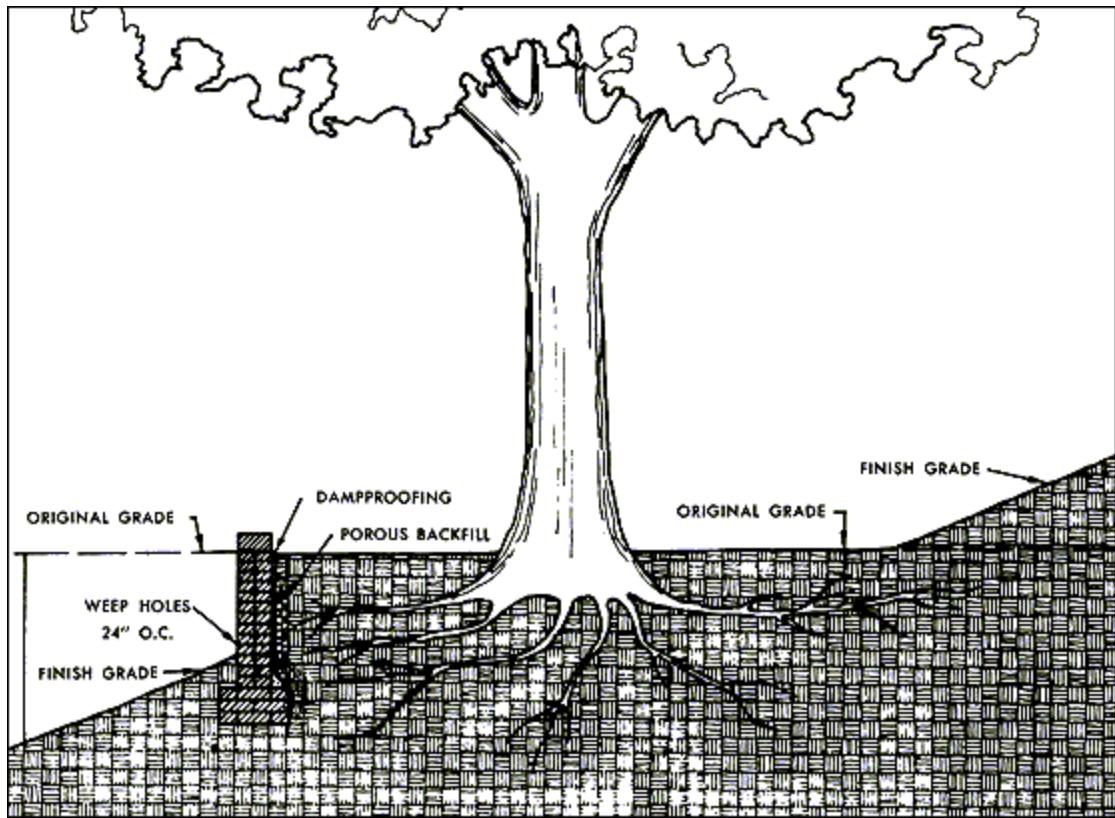

FIG. 13
*Lowering the Grade.* Protecting a tree from a lowered grade is usually less complicated than protecting it from a raised grade. Lowering the grade can be equally harmful to a tree unless proper attention is given to cutting the roots, pruning branches, stimulating root growth and watering. Generally, protection is achieved by terracing the grade. If space is available, the tree may be unharmed if it remains on a gently sloping mound. Another way to protect a tree from a lowered grade is to build a brick retaining wall between it and the lower grade, as shown in Fig. 13.